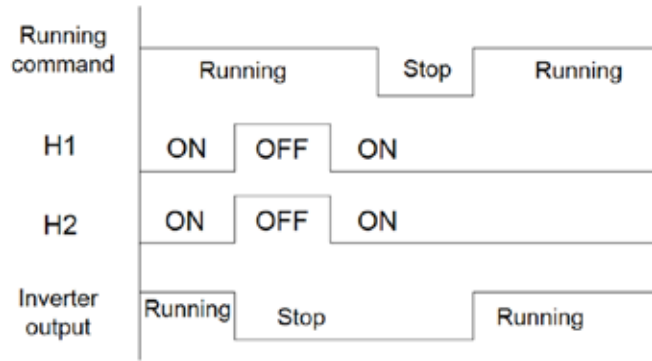

Figure 3-18
- 2. When the hundreds of P11.16 is set to 2, the STO alarm will not be locked. As shown in below Figure 3-18, alarm non-lock means when STO appears, the STO alarm will disappear automatically after state restoration, which requires no reset action. After reset of external running command, the inverter will execute run command again.